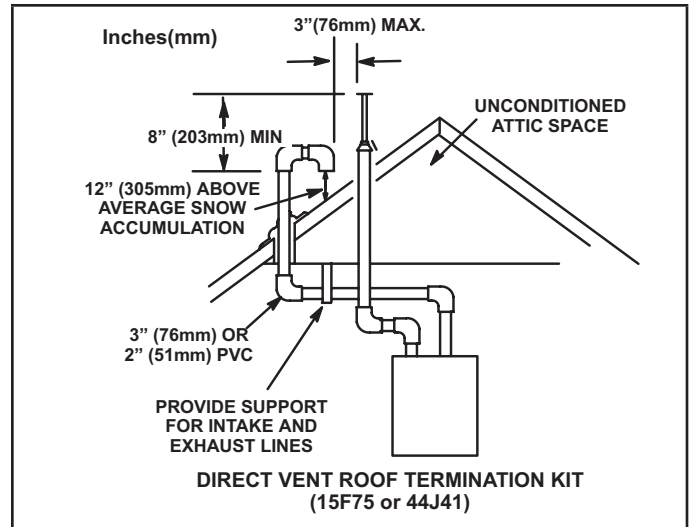

FIGURE 25
Intake and exhaust pipes may be routed either horizontally through an outside wall or vertically through the roof. In attic or closet installations, vertical termination through the roof is preferred. FIGURE 25 through FIGURE 32 shows typical terminations.
- 3 - On roof terminations, the intake piping should terminate straight down using two 90° elbows (See FIGURE 25).